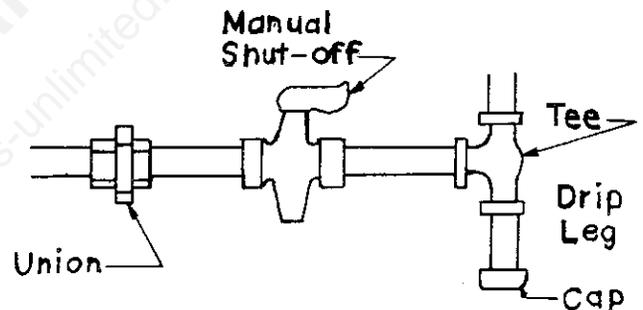

FIG. 3
1. The gas supply line **must** have a trap or drip leg at the inlet gas connection to the controls assembly (Fig. 3).
2. This can be accomplished with a pipe tee fitting and plug (Fig. 3).
4. Pre-install a manual valve shut-off ahead of furnace controls (Fig. 3). This is for easy shut-off of the gas if servicing is required on burner controls, etc.